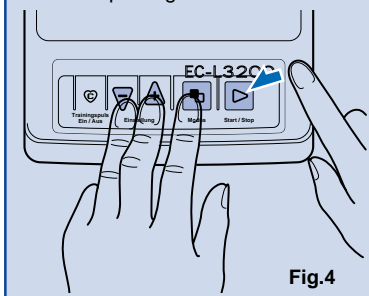

Fig.4
- To get the desired work rate during the exercise, first adjust it roughly by the workload adjustment dial, then precisely by changing your pedal cadence. The workload can be shifted to 8 positions, 1 is the easiest and 8 is the heaviest. (Fig.4) Turning the workload adjustment dial leftward make the workload easier and turning it the rightward make the workload heavier. Each position of the workload adjustment dial is identified by the mark displayed on the screen. The following table shows work rate (watt) corresponding to each workload adjustment dial position, and the pedal cadence.